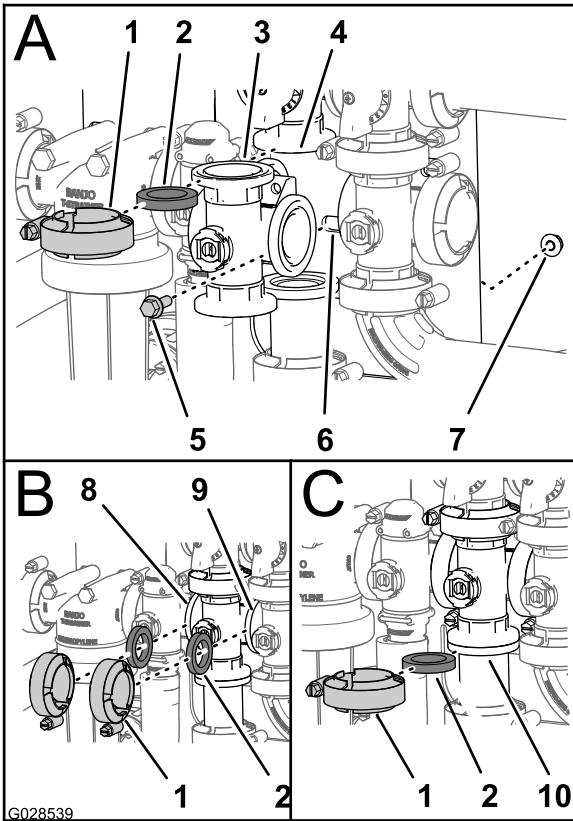

Figure 102
1. Align the flange of the agitation valve manifold, a gasket, and the flange of the agitation bypass valve (A of Figure 102).
- Assemble the agitation bypass valve, gasket, and agitation valve manifold with a clamp and tighten by hand (A of Figure 102).
- Align a gasket between the flanges of the rate control valve and the agitation valve manifold (B of Figure 102).
- Assemble the rate control valve, gasket, and agitation valve manifold with a clamp and tighten by hand (B of Figure 102).
- Align a gasket between the flanges of the agitation valve manifold and the master boom valve (B of Figure 102).
- Assemble the agitation valve manifold, gasket, and master boom valve with a clamp and tighten by hand (B of Figure 102).
- Align a gasket between the flanges of the agitation valve manifold and the adapter fitting for the agitation throttle valve (C of Figure 102).
- Assemble the agitation valve manifold, gasket, and adapter fitting with a clamp and tighten by hand (C of Figure 102).